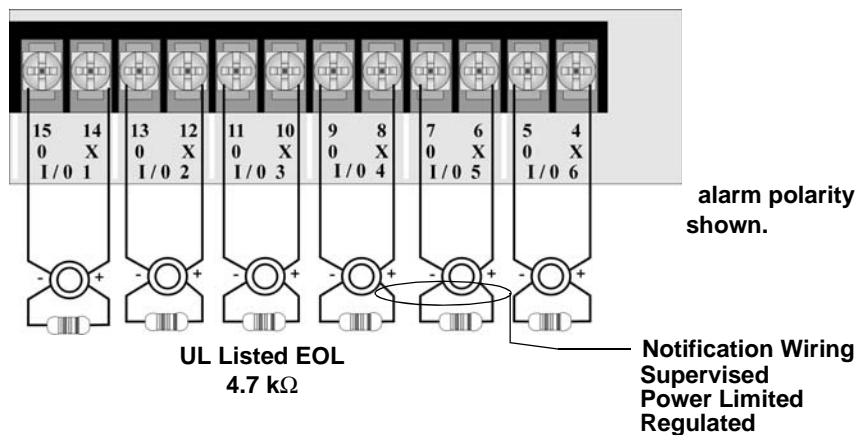

Figure 3-8 Class B Notification Appliance Circuit Wiring
1. Wire Class B Notification appliances as shown in Figure 3-8.